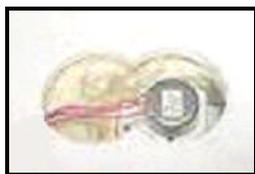

Figure 2
5. Remove the foam insulation around the sensor as shown in Figure 2.